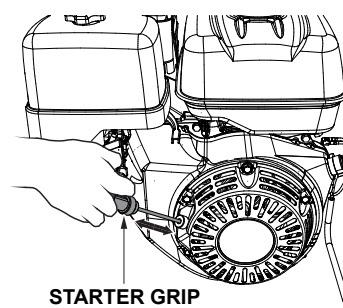

Figure 27. Starter Grip
11. If starting your welder-generator by the **recoil start method** (no battery), grasp the starter grip (Figure 27) and slowly pull it out. The resistance becomes the hardest at a certain position, corresponding to the compression point. Pull the starter grip briskly and smoothly for starting.